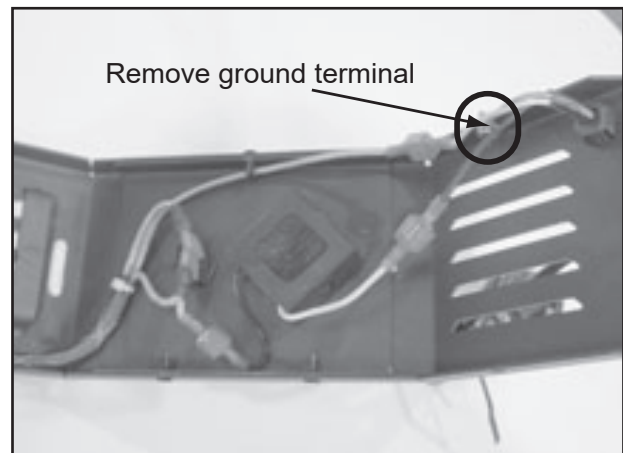

Figure 20.1
2. Remove the green ground terminal from the housing by using a 11/32 inch wrench and Phillips head screwdriver (**Figure 20.1**).
10. See **Figure 20.1** as a reference to connect the remaining wires as shown.